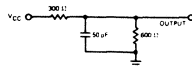

FIGURE 1.
A.C. CHARACTERISTICS WITH STANDARD LOAD (FIG. 1)